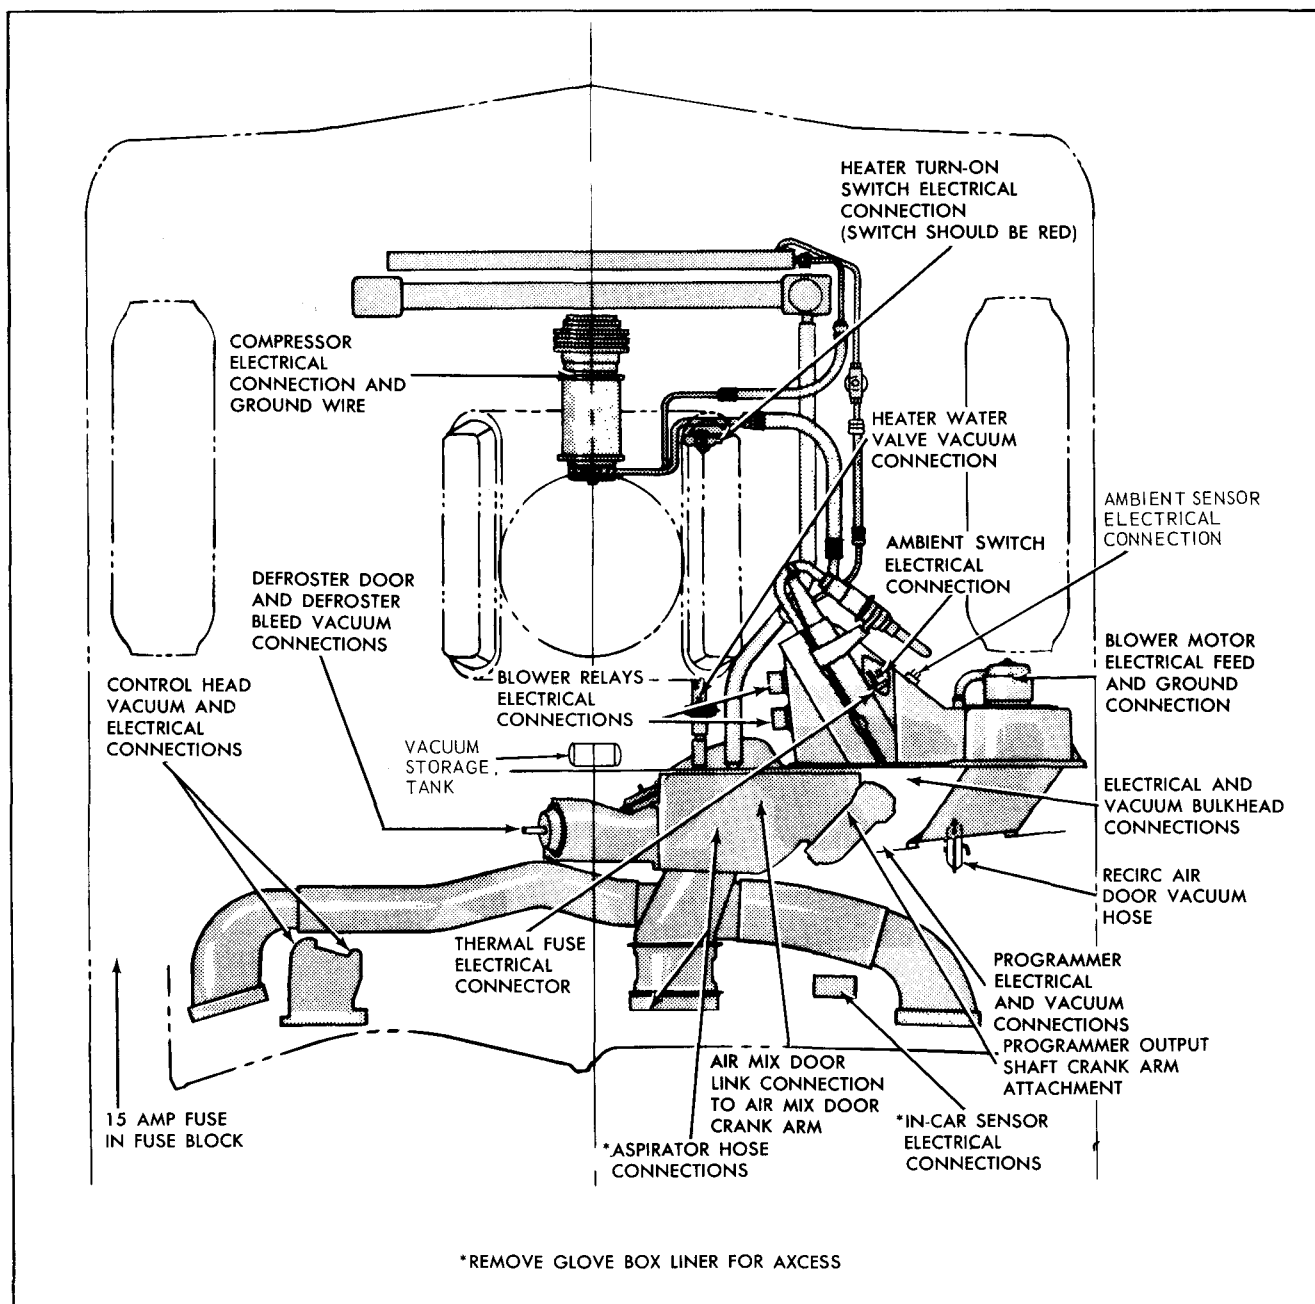

Fig. 1-1 A/C Diagnosis Areas
STEP 3 - Perform the easiest checks first! A simple, visual inspection of the easily accessible underhood and instrument panel electrical and vacuum connections will, in many instances, reveal the defect on the spot. The areas indicated in Fig. 1-1 can be inspected without removing any car parts: